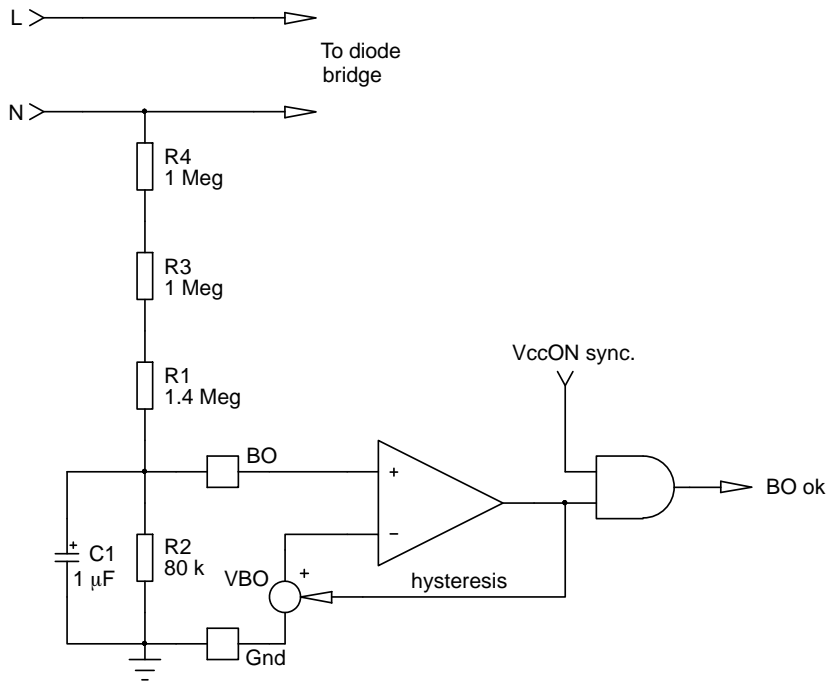

Figure 52. A simple comparator monitors the input voltage via a single pin. When this voltage is too low, the pulses are stopped and the V_{CC} hiccups.
Brown-out (BO) is a means to protect the converter against an erratic behavior that can occur at the lowest input voltage level. By safely stopping the output pulses when the mains is below a predetermined value, the converter prevents thermal runaway, greatly improving its robustness. Brown-out protection is another way to avoid an erratic hiccup mode when too low of an input voltage limits the power delivery. Some applications, such as printer power supplies, forbid this kind of operations and impose a clean stop. In that case, brown-out detection/protection is the way to go. Figure 52 shows a simplified implementation in the controller.